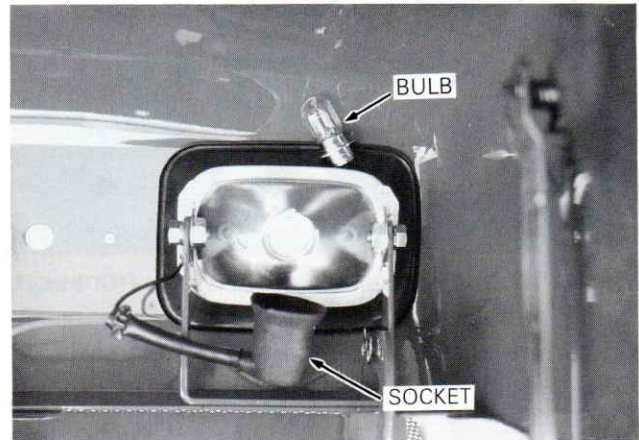

Figure 54 — Headlamp
1. Turn the socket counter-clockwise and remove the socket from the housing, Figure 54.